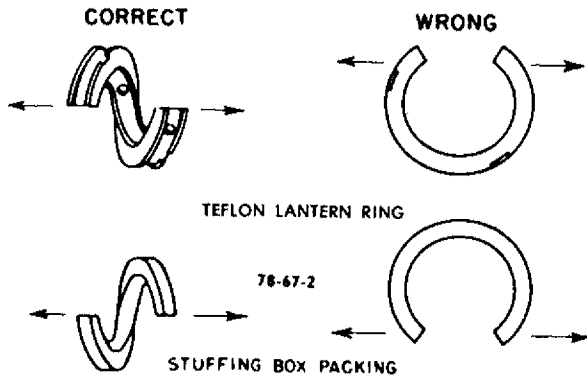

Fig. 8
Teflon lantern ring (105), twist the rings sideways just enough to get them around the shaft. **DO NOT ATTEMPT TO PULL RINGS STRAIGHT OUT TO GET THEM OVER SHAFT.** (Fig. 8).